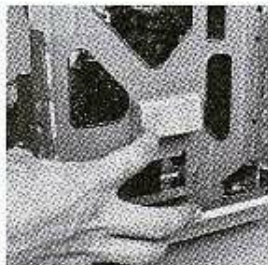

Figure 2-14
- a. Using the adhesive backing, attach the large rubber spacer supplied with the Outbound to the Macintosh chassis. Figure 2-14 illustrates the correct placement of this spacer.